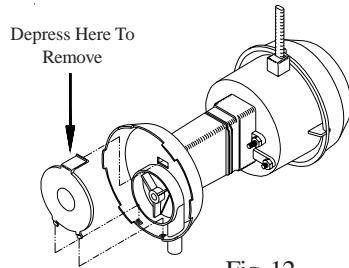

Fig. 12
- **Clean pump.** Cleaning the pump is necessary once a year at start-up. For your safety, turn unit off and unplug motor and pump. Remove the pump from the mount slot. Remove the bottom cover of the pump as shown in Fig. 12. Clean the pump and turn the impeller to ensure free